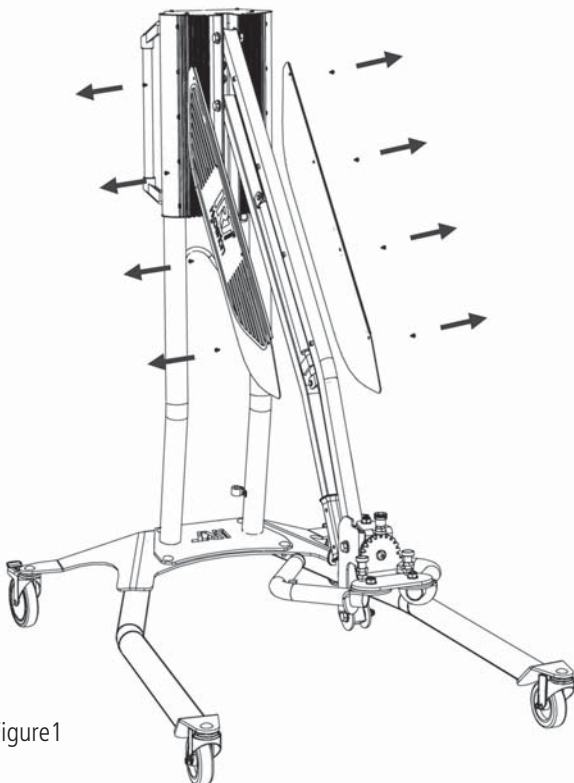

Figure1
1. Remove the four screws fastening the cover that is located on either side of the arm. (fig 1)